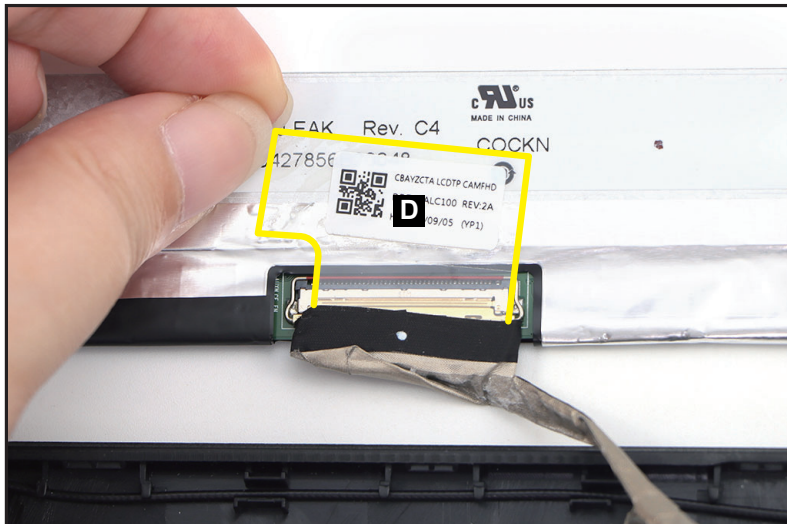

Figure 1-48. LCD Panel Removal
3. Carefully turn the LCD panel over so that the display panel is facing down on a flat surface. Then detach the mylar (D) securing the LCD cable to the LCD panel (Figure 1-48).